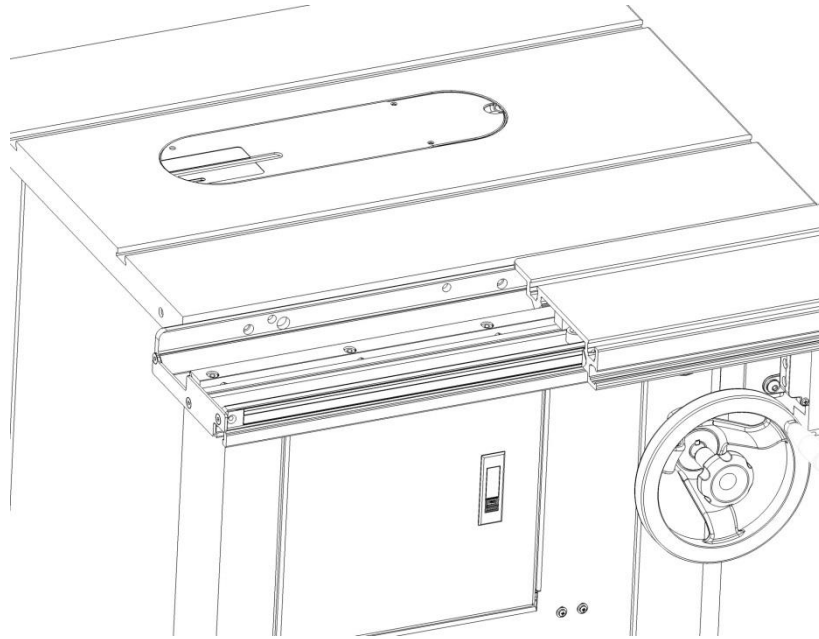

Fig. 8
6. Pull out the sliding table lock knob on the underside of the sliding table assembly and rotate it 90 degrees to unlock the sliding table. Then slide the table top toward the front of the saw to expose two of the mounting holes, as shown in **Fig. 8**.